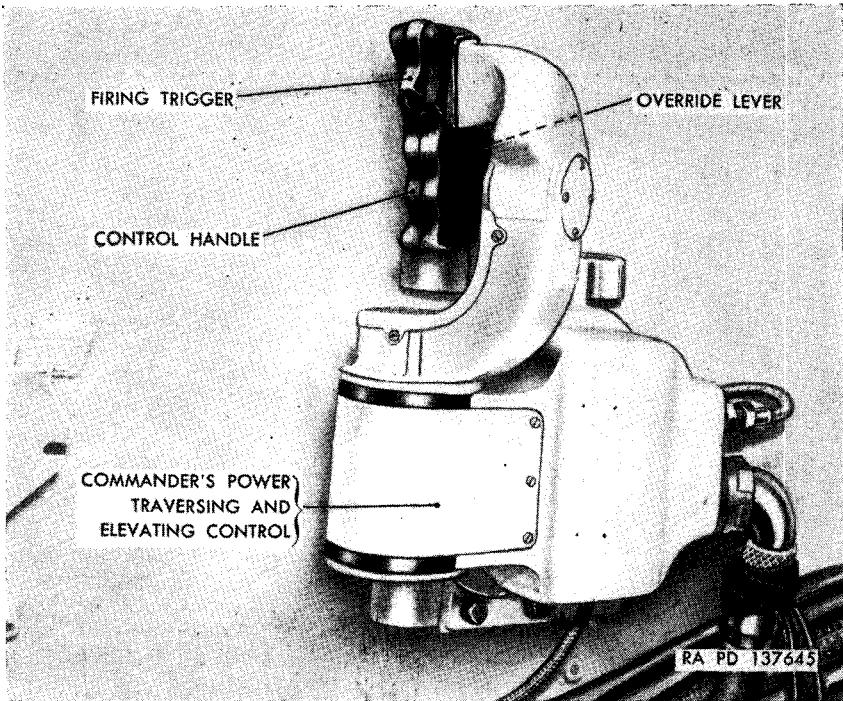

Figure 26. Commander's power traversing and elevating control.
a. GENERAL. The commander's power traversing and elevating control handle (fig. 26) is located above and to the right of the commander's seat. A commander's firing trigger is located on the handle.
b. OVERRIDE OF GUNNER. If the commander so desires, he may take over control of power traversing, elevating, and firing from the gunner by squeezing the override lever against the control handle (fig. 26). This action will disengage the gunner's control handle and engage the commander's control handle.